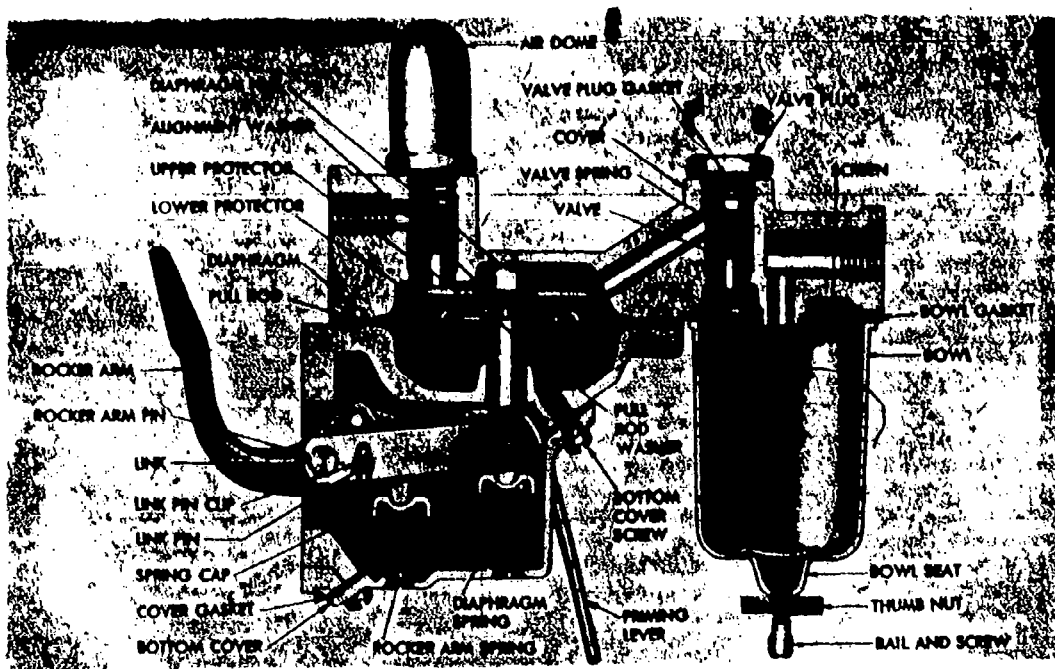

Fig 2-30. Fuel pump and sediment bowl.
2. Fuel filter and strainer. The fuel filter or strainer may be located at any point between the fuel tank and the carburetor. When a fuel pump is used in the system, the strainer generally comes between the fuel tank and the pump and a filter between the pump and the carburetor. The sediment bowl (fig 2-30) is a common type of strainer and is often combined with the fuel pump. Fuel enters the glass bowl and passes up and out through a filter screen. Any water or solid matter caught by the screen falls to the bottom of the bowl where it can be easily seen. Dirt in fuel generally comes from rust scale in tanks and drums, and from dust and dirt in expeditionary cans. Water comes from condensation of moisture in metal containers or tanks. Thumbscrews or spring-wire clips hold the sediment bowl in place against a cork gasket. Another type of filter is made of a series of laminated disks placed in a large metal bowl which acts as a settling chamber for the fuel.
3. Fuel pump. One of the most common fuel pumps is the mechanically activated nonpositive, diaphragm type (fig 2-30). Rotation of an eccentric on the engine camshaft actuates the rocker arm, which pulls the diaphragm down against the pressure of the diaphragm spring. This reduces the pressure in the pump chamber and permits gasoline to enter. The diaphragm is moved up on its return stroke by the pressure of the diaphragm spring, and gasoline is forced to the carburetor. When the carburetor bowl is filled, a back pressure is created in the fuel pump chamber, holding the diaphragm down against the spring pressure. It remains down until the carburetor needs more gasoline. The rocker arm and the pump lever (link) are in two pieces which operate as a single unit when the diaphragm is moving up and down. However, when the diaphragm is held down, only the rocker arm operates in the normal way. This is possible because the rocker arm operates against the link only in the downward direction. Upward movement of both parts is by spring pressure. It is this operation which makes the pump nonpositive. The principal problem encountered with fuel pumps is the wear and deterioration of the diaphragm, which is composed of several layers of especially-treated cloth that is not affected by gasoline. Some fuel pumps are equipped with hand-operated priming levers which may be used to pump fuel to the carburetor after the engine has been idle for a long time. This reduces the drain on the battery caused by using the regular fuel pump action to prime the fuel system and deliver fuel to the carburetor.